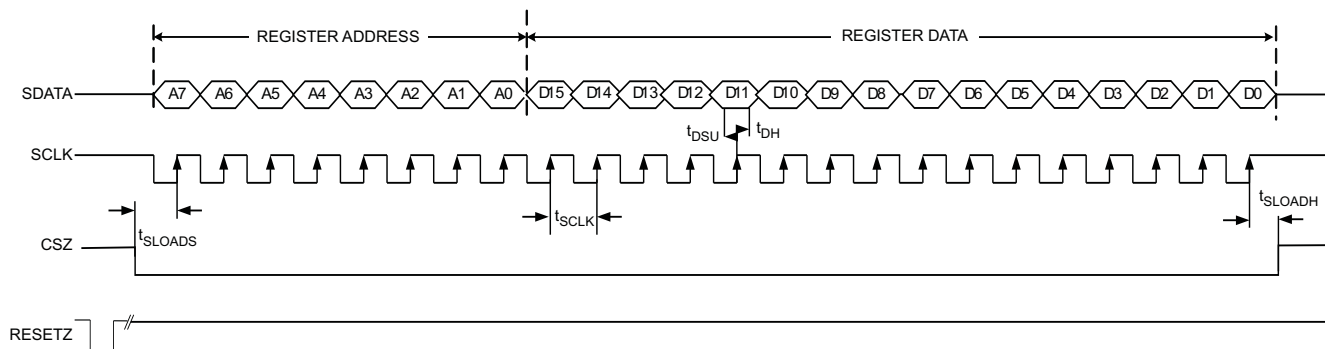

Figure 6. Serial Interface Timing
1. Through a hardware reset by applying a low-going pulse on the $\overline{\text{RESET}}$ pin (of width greater than 10 ns) as shown in Figure 6.